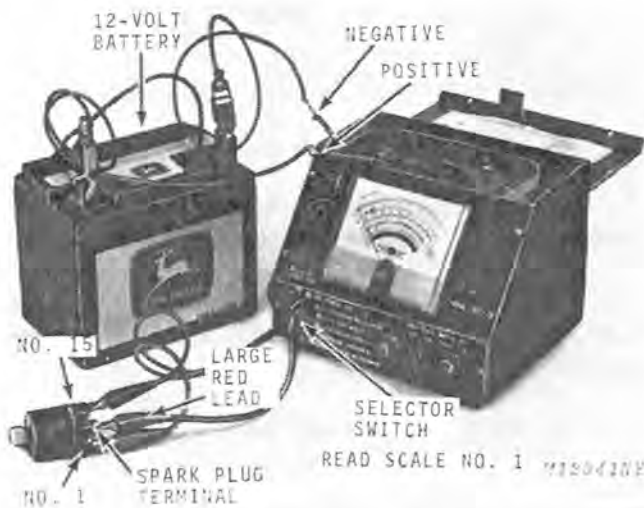

Fig. 23-Testing Ignition Coil Power
NOTE: For Kohler engine ignition coil power test and ignition coil insulation test, the analyzer battery has insufficient voltage to produce exact readings. Disconnect analyzer battery cables and connect each cable to appropriate post of 12-volt battery (See Fig. 23). Test condition of 12-volt battery as explained in analyzer test.
1. Connect the BLACK test lead to ignition coil terminal No. 15 and RED test lead to terminal No. 1. Connect the single large RED test lead to the spark plug terminal, Fig. 23.